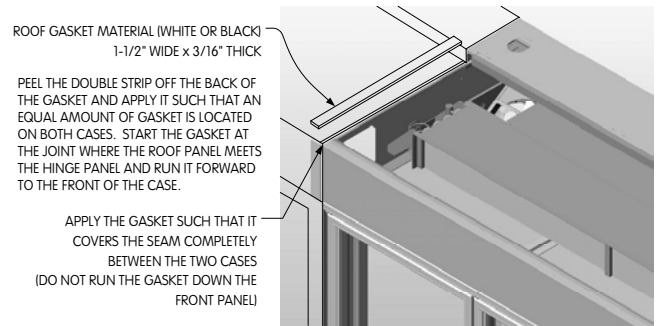

FIGURE 2D
- Each case joint at the top requires a 1-1/2 inch wide roof gasket to merge the seam between the two (2) cases. Installation of this gasket is very important. Place the gasket back to where the hinge panel begins and run it all the way forward to the edge of the front panel. Cut it flush with the front panel. (See Figure 2D)